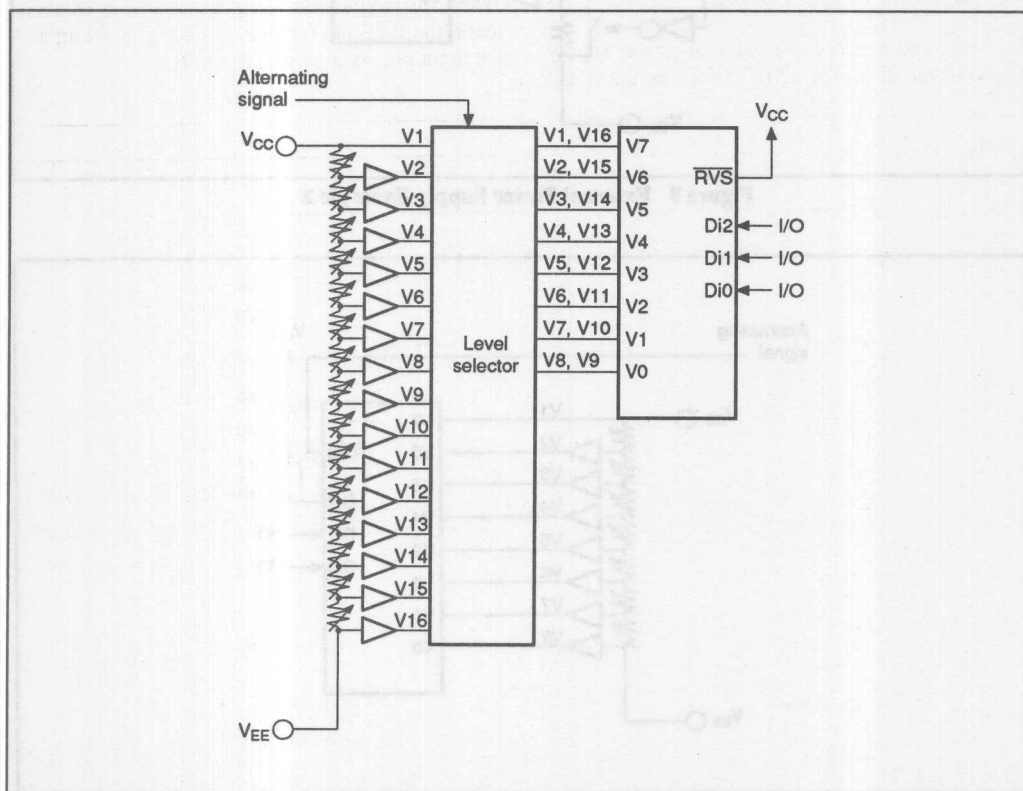
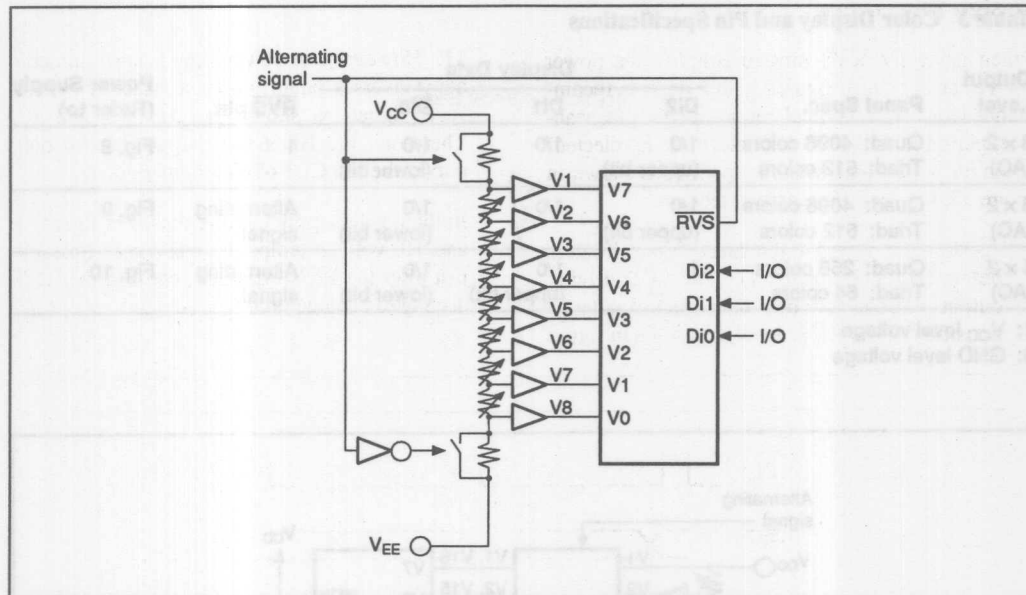
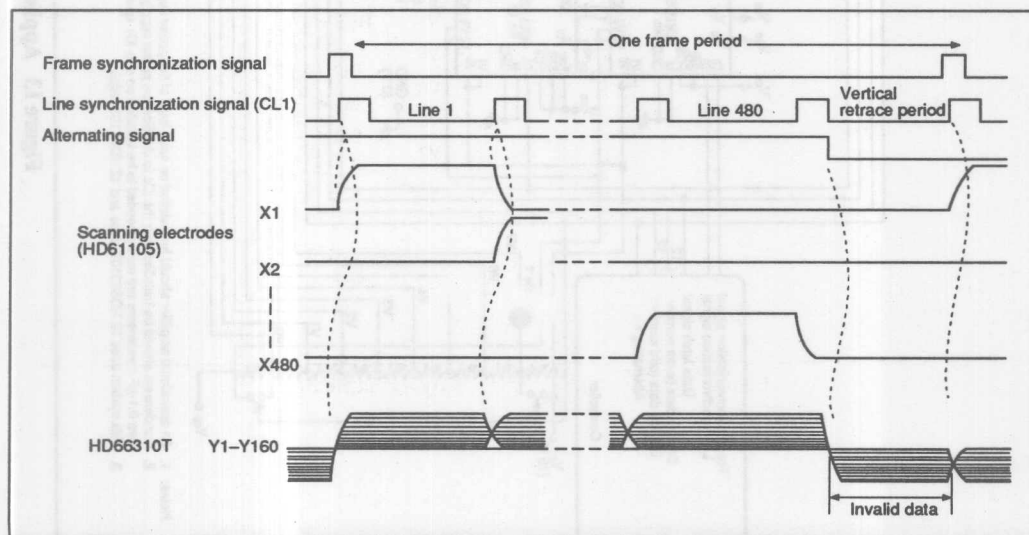

Figure 8 External Power Supply Example 1
Figure 9 External Power Supply Example 2
Figure 12 Vertical Retrace Period
Although the HD66310 has eight LCD driving voltage input levels, it can output 16 driving voltage levels using the level selector shown in figure 8, since the transfer gates of the output circuit are produced by the CMOS structure.
Figures 8 and 9 show the external power supply circuit when displaying 512 colors in the Triad
The circuit shown in figure 8 is the basic one used when displaying 512 colors in the Triad arrangement. However, the HD66310 can dispense with the level selector, as shown in figure 9, using the internal  $\overline{RVS}$  (output reverse) pin. See table 1 for detailed  $\overline{RVS}$  functions.
When using the  $\overline{\text{RVS}}$  pins to simplify the power source, as shown in figures 9 and 10, it is recommended to add a vertical retrace period, (a scanning period in which no scan electrode is selected) at the end of a frame scanning period, as shown in figure 12, for the following two reasons.
11. However, the power supply lines immediately reverses polarity after a transition of the  $\overline{\text{RVS}}$  signal, as shown in figures 9 and 10. Therefore, the HD66310 outputs invalid data during the last CL1 of a frame period.
- In the power supply circuits shown in figures 9 and 10, voltage temporarily becomes unstable just after the  $\overline{\text{RVS}}$  transition, causing the LCD display to become jumbled.